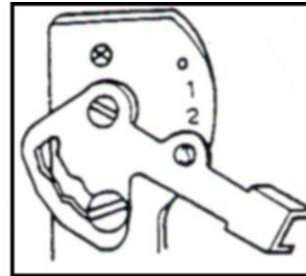

Fig. 2
1. Move the lever up or down for the desired pressure. For light fabrics set lever at 1, set at 2 for medium fabrics and 3 for heavy fabrics. (See fig. 2.)
Lower the presser foot bar “a” until the groove “c” is directly above the pin “d”. (See fig. 2)
Bajar la barra prensatelas “a” hasta que la ranura “c” esté directamente sobre la espiga “d”. (fig. 2)